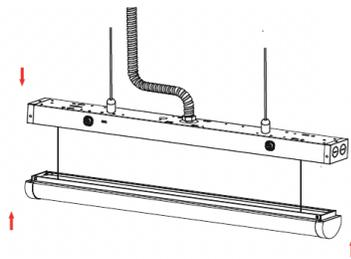

Fig. 11
6. Attach the housing cover back onto the fixture (Fig. 11).